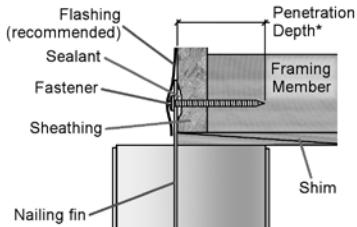

Figure 2 - General Installation
- (Required)** A generous amount of Exterior Grade Caulk/Sealant designed for Doors and Windows must be applied at all joints of the nailing fin intersections, to include applying a generous (at least 3/8") continuous bead of exterior-grade sealant to ensure an adequate seal between the back of the nailing fin and the exterior surface of the rough opening (**Figure 2**).